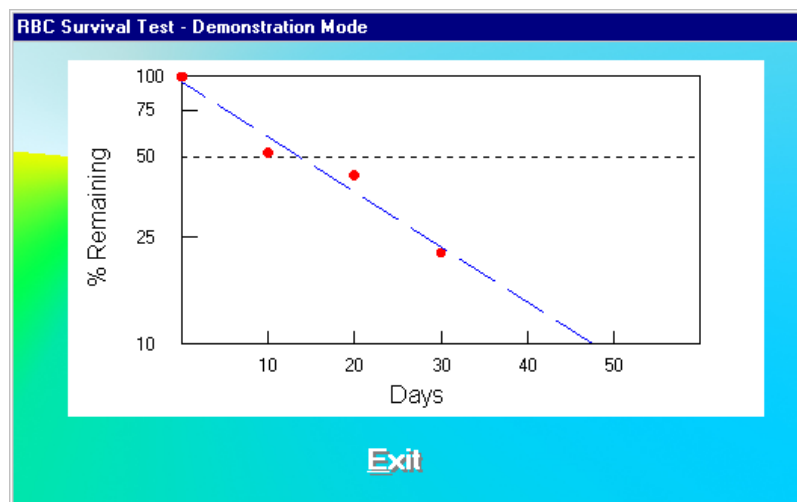

Figure 10-81
5. To view a graph of percentage RBC Remaining vs. Days passed after the injection time, click the **Display Graph** button or press *ALT+G*. The screen appears as in Figure 10-81.